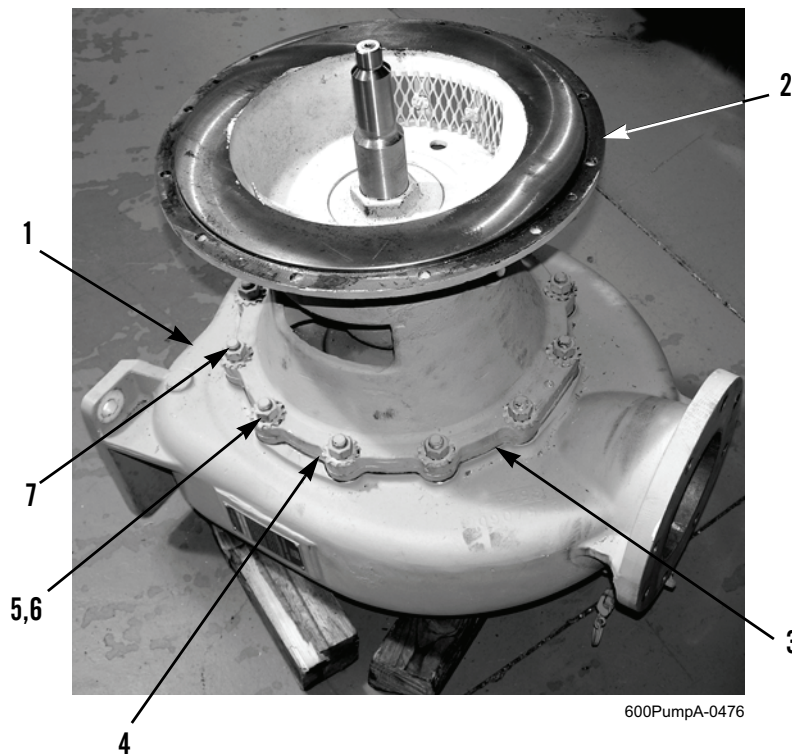

Figure 1. Separating Intermediate Housing and Seal Plate from Pump Casing.
1. Remove 12 nuts (Figure 1, Item 5) and lockwashers (Figure 1, Item 6) from studs (Figure 1, Item 7). Discard lockwashers.
2. Use suitable lifting equipment to separate intermediate housing (Figure 1, Item 2) with seal plate (Figure 1, Item 3) from pump casing (Figure 1, Item 1).
3. Remove gasket (Figure 1, Item 4) from pump casing (Figure 1, Item 1) and discard.